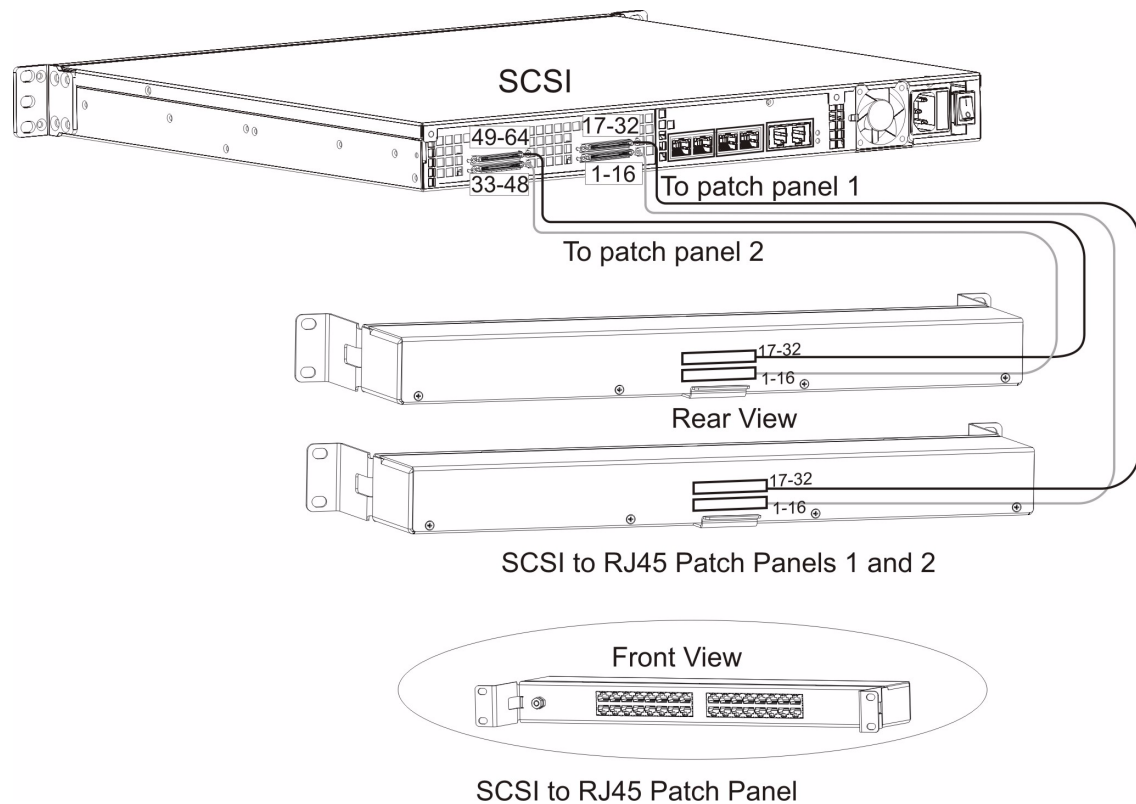

Figure 2.7 SCSI Interface to the PSTN
A TMP6400 with 4 SCSI connectors enables the connection to T1/E1/J1 lines. See figure 2.7 on page 18
1. Start with the SCSI port 1-16 located at the bottom right as shown in figure 2.7 on page 18. Connect one SCSI cable between this port and SCSI patch panel number 1, port 1-16. Connect SCSI port 17-32 to patch panel number 1, port 17-32.